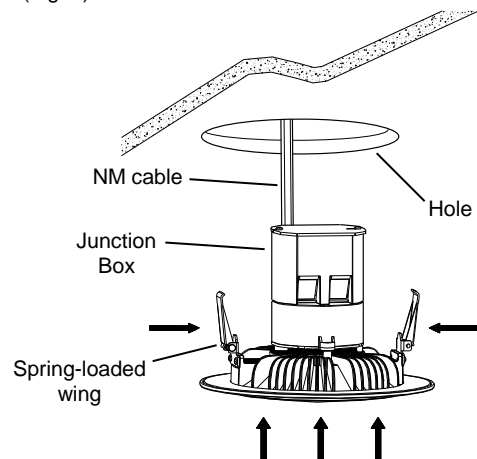

Fig. 4
7. Raise the Easy-UP™ trim up to the ceiling hole, while simultaneously pushing the excess NM cable into the hole. (Fig. 4)
8. Flip up and squeeze the spring-loaded wings against the junction box, as shown, and insert the Easy-UP™ trim into the hole, junction box first. (Fig. 4)